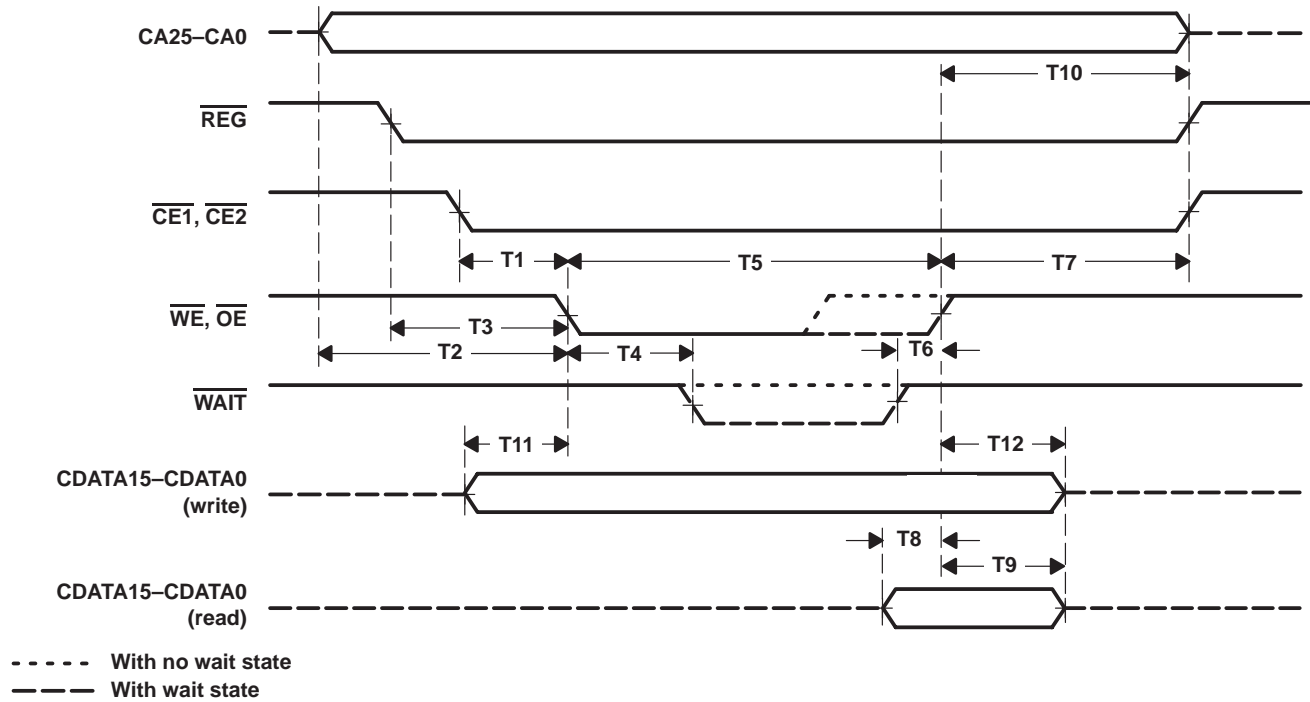

Figure 29. PC Card Memory Cycle
**timing requirements over recommended ranges of supply voltage and operating free-air temperature, memory cycles (for 100-ns common memory) (see Note 8 and Figure 29)**